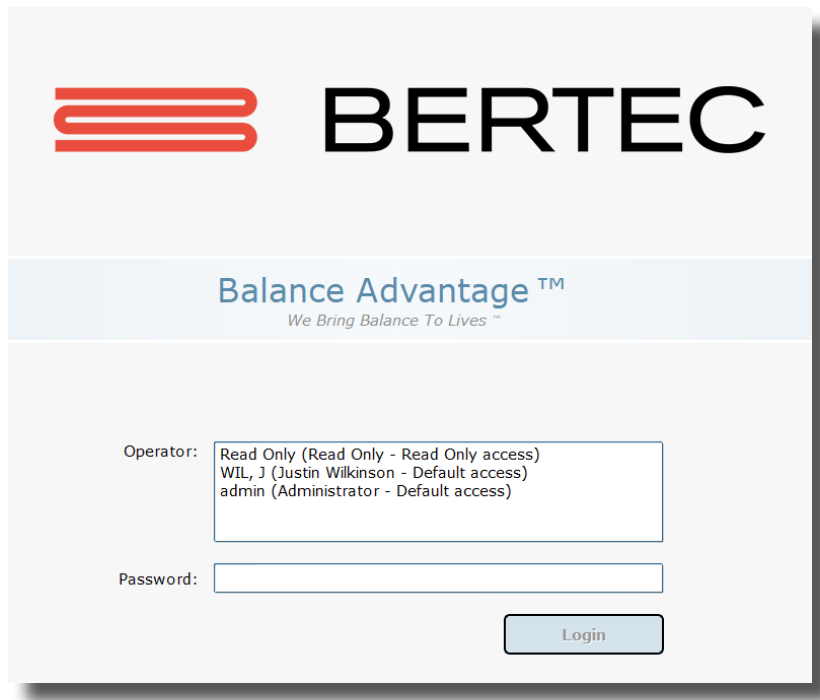

Figure 5: Software Login Screen
1. Open Bertec® Balance Advantage®. Arrive at the login screen, shown in Figure 5.